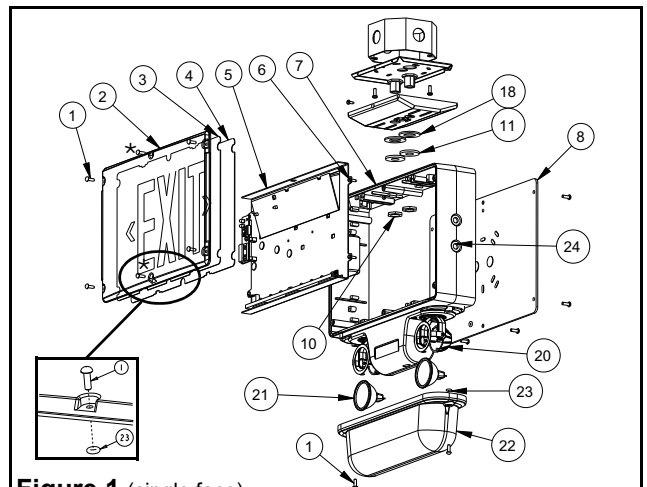
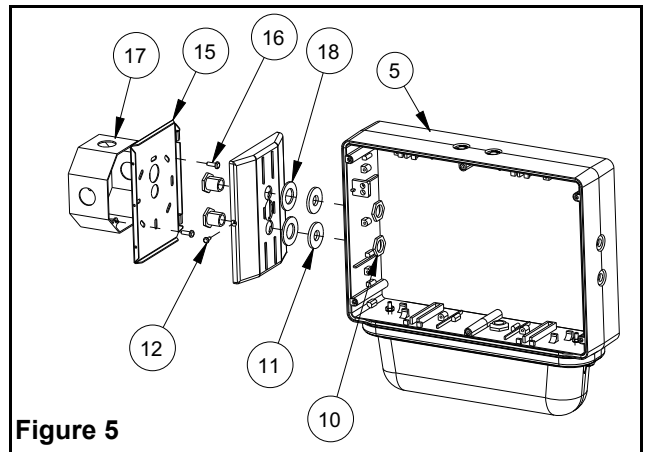

Figure 1 (single face)
Figure 5
- c. Remove proper knockouts in canopy backplate for desired mounting position. **For Nexus wired option**, install the liquidtight™ fitting, provided with the unit. For side mount, use the knockout located on top of the unit. For ceiling mount, use the knockout located on side of the frame (see fig. 5).
- e. Make sure the securement screw is accessible (see fig.1 & 2 part # 12). Use existing screws in junction box to secure canopy backplate to the junction box.
- h. Determine which holes in the exit frame will be used for mounting (see fig. 1,2 & 5). Support frame with two blocks of wood, maximum one inch apart. Strike knockouts with a hammer and screwdriver. Clear holes of burrs to allow proper assembly of nipple/wire assembly. Note: end mount installation is weatherproof but not certified for Nema 4X (see fig. 5).
- i. Secure canopy to the frame by threading the provided nipple/wire assembly through the canopy and frame. Make sure the gasket washers are between the canopy and frame, and that the locknuts(10) are inside the exit sign (see fig. 5).
- 7. Install the lens-legend by using the 6 tamper-proof screws. The o-rings have to be installed on the center screws between the lens-legend and the frame (see fig. 1 & 2). **Note: The tamper-proof screws should be equally torqued to approximately 10 - 15 in-lbs (1.1 - 1.7 N-m).**
Slot head screws and knock-out covers (see fig. 1 part 1 & 24) are available in the hardware kit. To comply with food processing facilities the tamper-proof screws must be removed and replaced with the flathead screws provided. The covers must be installed on the knockouts to avoid any accumulation of contaminants. Note: some detergent used in the food processing industry can affect durability of polycarbonate lens (see fig. 1 part 2 & 22).